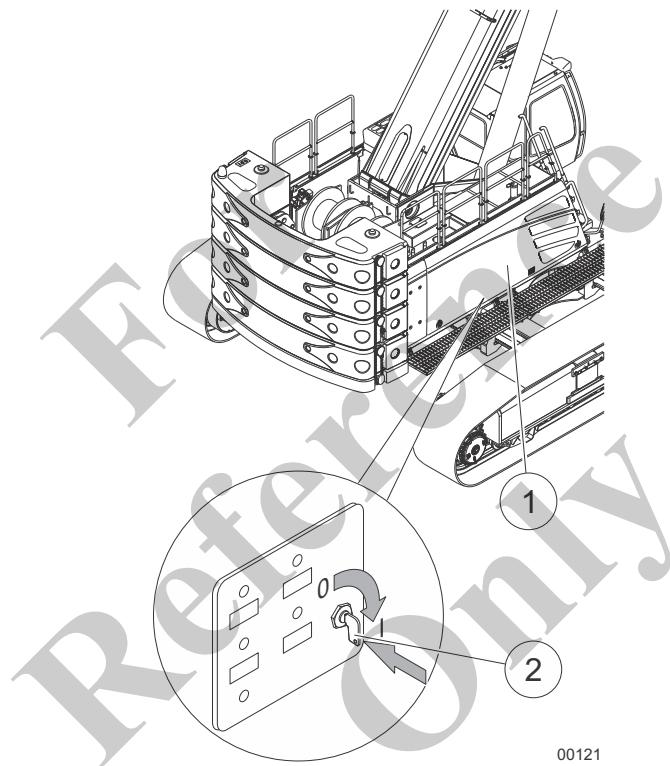

Fig. 41 Switching on the battery disconnect switch
- 1 Open the right service door (1) in Fig. 41.
- 2 Press the battery disconnect switch (2) in Fig. 41 and turn it to the right.